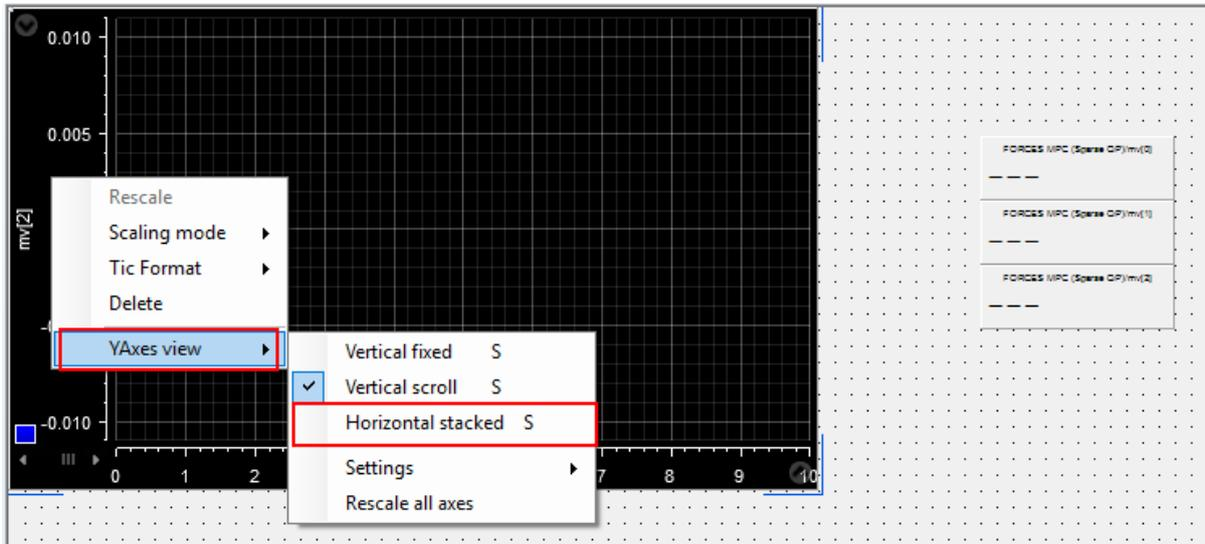

Figure 6.18: Select to show all the signals on the same plot with their own Y-axes
- 14) To see all the plots concurrently right-click on the left of the Y-axis and select `YAxes-view> Horizontal stacked` (see Figure 6.18).